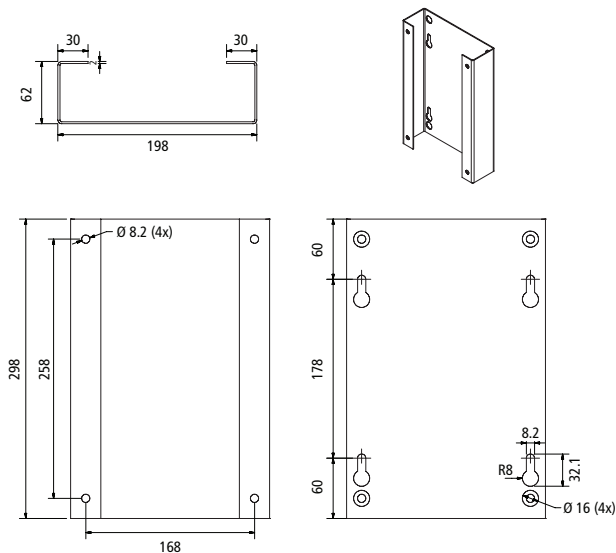

fig.13.1 - Standard bracket dimensions in mm
When calculating the positions for the mountings (see fig 13.1), the distance from the acoustic centre to the top or bottom of the loudspeaker (whichever is being used as the reference datum) should be measured and then allowed for when marking the mounting positions. The model-specific specification sheet supplied with each loudspeaker includes a mechanical drawing clearly showing the mounting position locations.
2. Using the bracket removed in Step 1, mark the wall for the wall plugs. Refer also to the Mechanical Details drawing in the datasheet supplied with the loudspeaker. Check the dimensions given from the reference datum to each pair of mounting holes, and allow for the offset of the acoustic centre from the reference to ensure that the acoustic centre will be at the height defined in the acoustic design specification. Reference to Fig 13.1 may also be helpful. Drill the holes (Ø 10 mm).